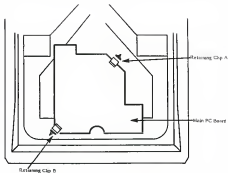

Figure 7-7. Main PC Board
To remove the main PC Board: (See Figure 7-7)
- Position the board as shown in Figure 7-7. Be sure that the holes in the board are aligned with the three holding tabs in the bottom cover.
- Plug in the 5-pin cable plug (32) on the PC board.